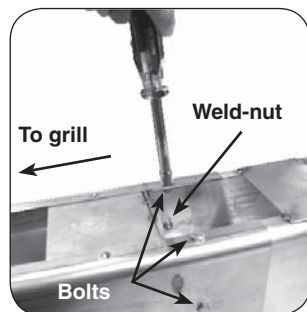

Fig. 8-3
6. From outside the joined post and extension, insert one of the 1/4 X 20"-5/8 bolts (supplied) into each of the five (5) bolt holes and tighten each using a 7/16" socket driver or wrench (see Fig. 8-3).